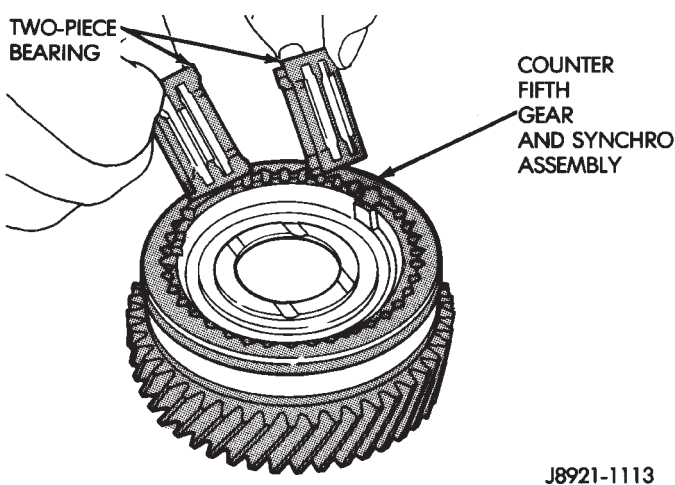

Fig. 100 Installing Counter Fifth Gear Bearing
(4) Lubricate two-piece bearing with petroleum jelly and install it in counter fifth gear (Fig. 100).